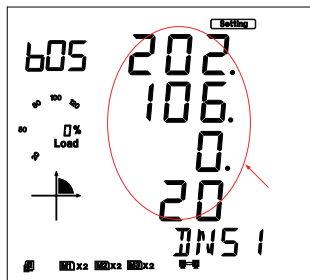

Fig 5-81
g). Set DNS Primary Server in the fifth setting page, such as 202.106.0.20. Press the "V/A" key to go to the setting page. Users may set the parameters pointed out in Figure 5-81. The cursor starts at the first digit. After setting the DNS Primary Server, press the "V/A" key to accept. Press the "P" key to go to the sixth setting page for DNS Secondary Server.